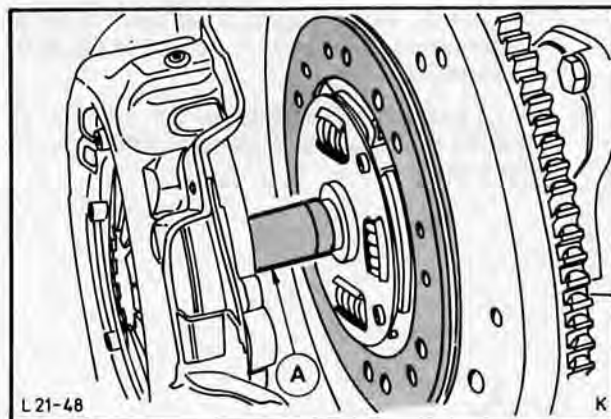

Fig. 211. Fit clutch pressure plate and clutch disc
6. Fit clutch disc and pressure plate, centering clutch disc by means of Special Tool 21-044 or 21-080, Fig. 211, and tighten bolts to prescribed torque.